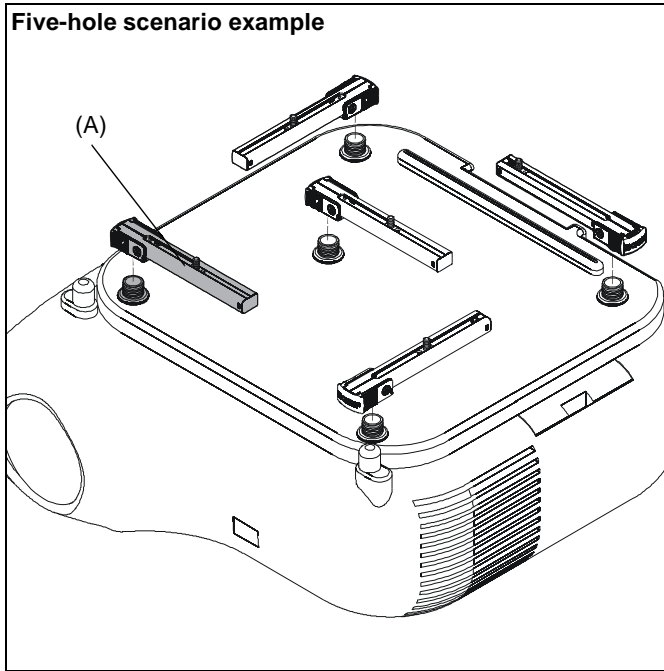

Figure 4
- Place SLBLEG accessory (A) and SLBU/SLMU legs over screw adapters and height-adjustment nuts. (See Figure 4)